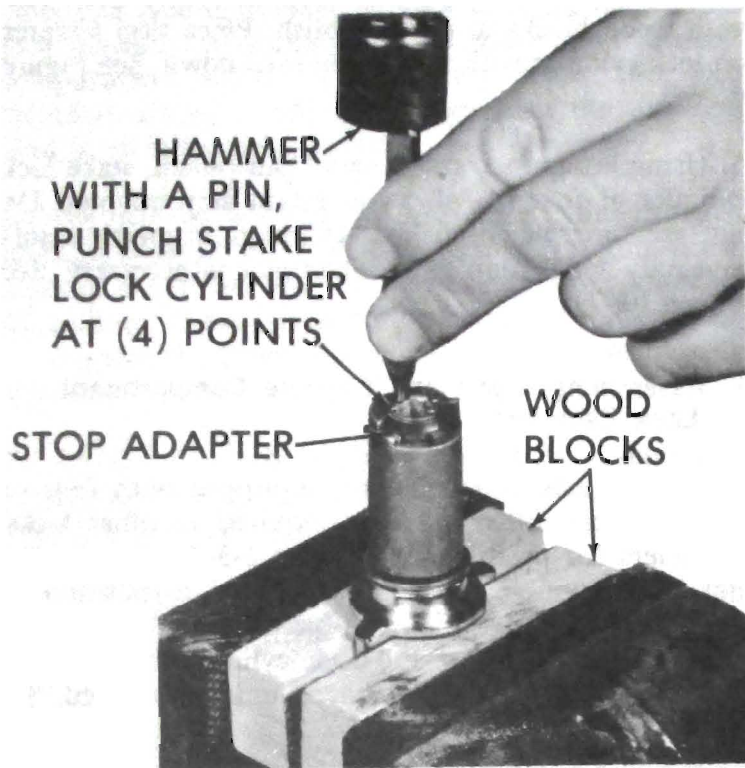

Figure 00-7 Staking Lock Cylinder to Retain Lock Adapter
5. Using a hammer and a small pin punch, stake lock cylinder at four (4) places to retain stop adapter. Do not use force when striking cylinder, as metal is soft and only a light tap with a hammer is necessary. See Figure 00-7.
4. Reverse lock cylinder position in vice and repeat Step 5 for bottom of tumblers. See Figure 00-7.